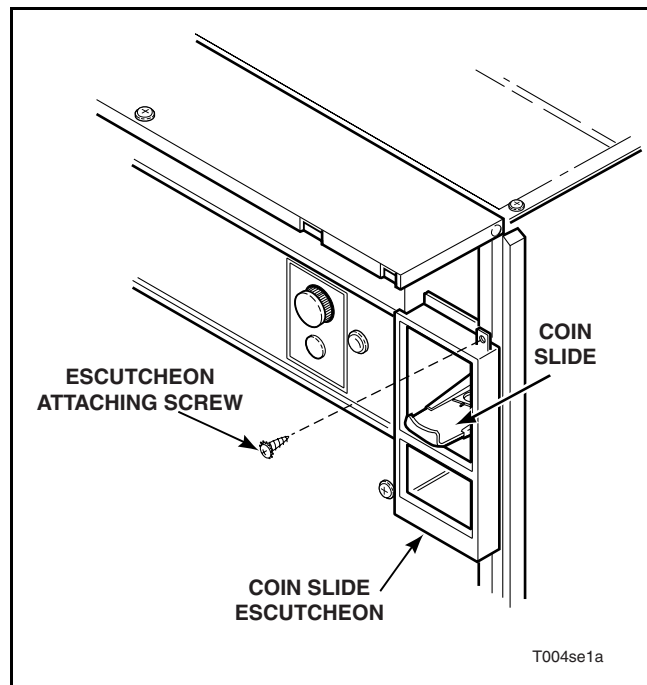

Figure 1
- (1) Remove screw holding top of escutcheon to right side panel. Refer to *Figure 1*.